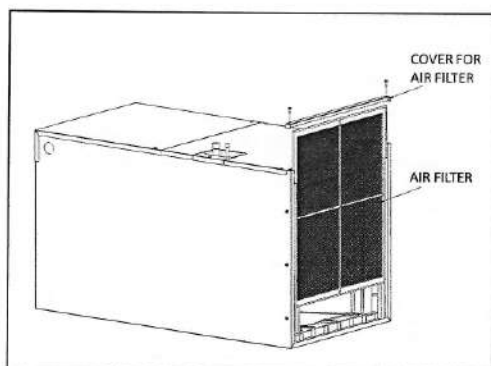

FIGURE 5: Remove The Air Filter
2. Braze the suction line and the liquid line. See figure 5.